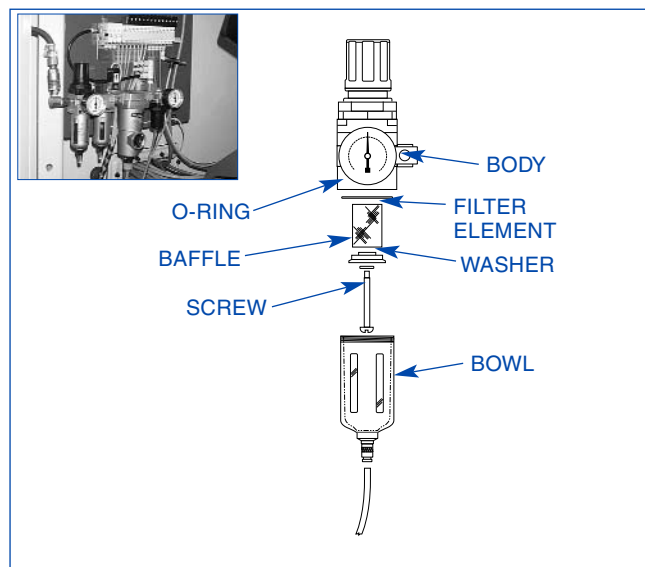

FIGURE 4-5, Airline Filter/Regulator
3. Filter Regulator (see Figure 4-5):